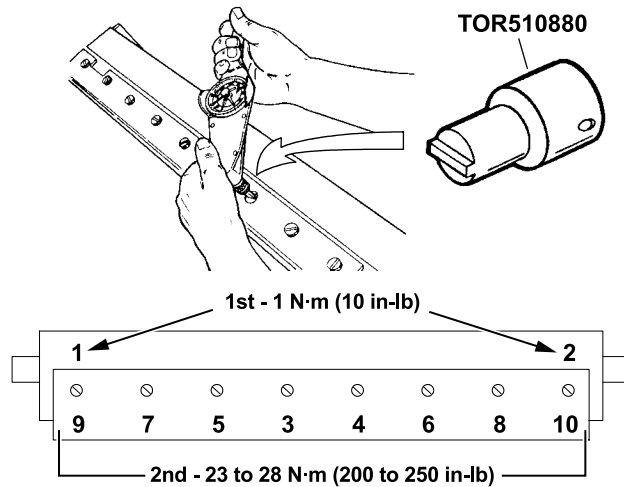

Figure 172
6. Working from the center of the bedknife toward each end (refer to Figure 172), tighten screws from **23 to 28 N·m (200 to 250 in-lb)**.